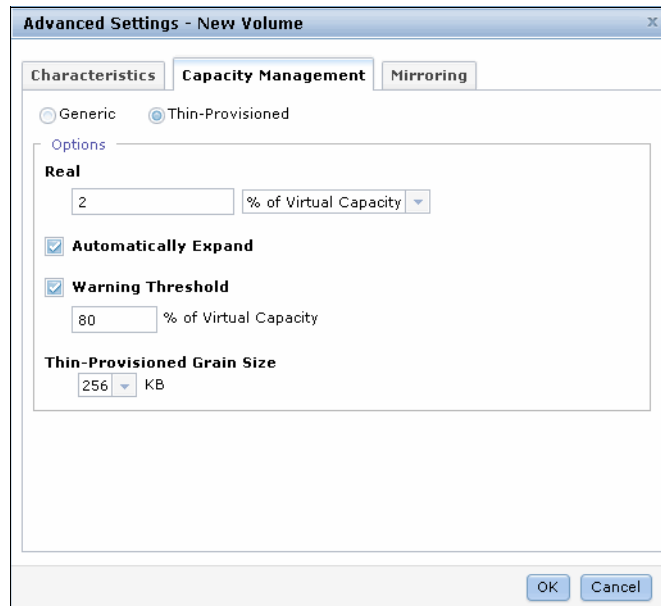
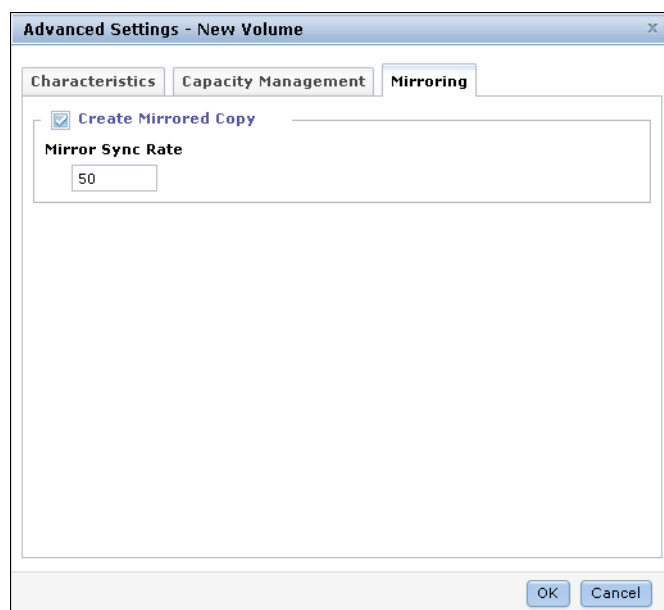

Figure 5-9 Advanced Settings
Figure 5-14 Advanced mirroring features
On the Thin Provisioning tab (as shown in Figure 5-9), the following advanced options are available:
- The summary shows you capacity information about the pool. If you want to select advanced settings, click **Advanced** and then click the **Mirroring** tab, as shown in Figure 5-14.
4. The summary shows you the capacity information and the allocated space. You can click **Advanced** and customize the thin-provision settings (as shown in Figure 5-9 on page 177) or the mirror synchronization rate (as shown in Figure 5-14 on page 180). If you opened the advanced settings, click **OK** to return to the New Volume window, as shown in Figure 5-18.